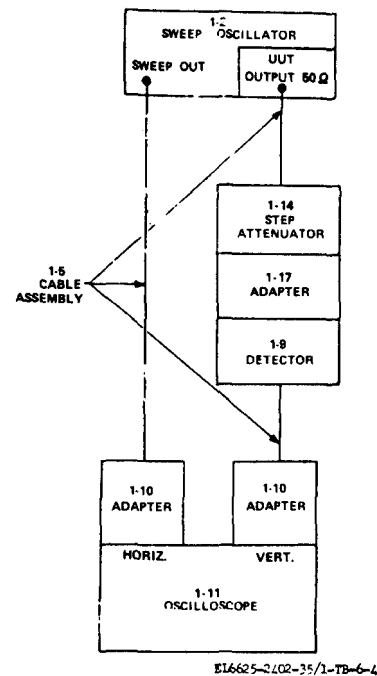

Figure 6-4. Flatness measurement, equipment setup.
(1) Connect equipment as shown in figure 6-4.
(2) Position sweep oscillator controls as follows: